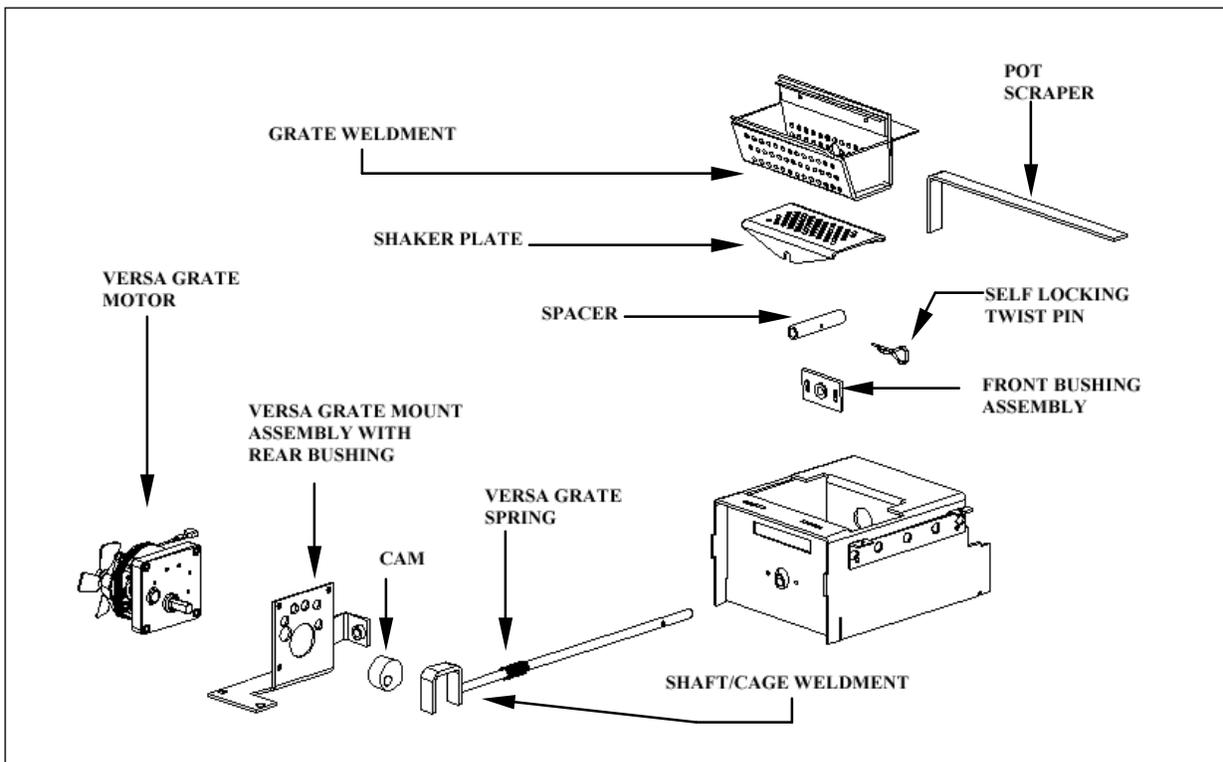
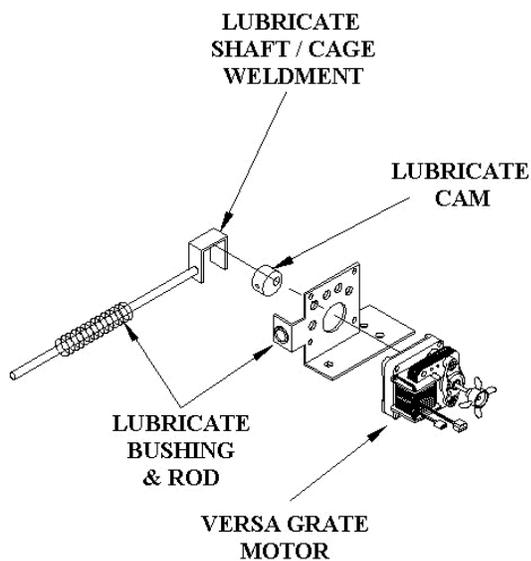

Figure 5
Figure 11
All models are equipped with the Versa Grate System (see Figure 5 below). The benefit of this feature is that the stove can operate for longer periods of time, with most fuels, without the grate requiring cleaning. If the flame becomes dark orange, is accompanied by black smoke or burns with a lazy motion - it's time to clean the grate.
The Versa Grate System – First, let's become familiar with the burn system in a St. Croix Pellet stove. The system in the York Insert is a little different than in the Freestanding models (See Fig 5 below). There is a 2-piece burnpot. The top Part is called the **"Grate Weldment"**. This sits on top of the **"Shaker Plate"**. This in turn sits on top of the **"Shaft/Cage Weldment"** and is held in place with the **"Spacer"** & **"Self Locking Twist pin"**. The Shaft/Cage weldment is moved towards the front of the stove and then towards the back of the stove by the **"Cam"** that is connected to the **"Versa Grate Motor"**. This motion is constant while the stove is in operation. The only parts that may need to be removed for cleaning purposes during the Daily or Periodic Maintenance are the **"Grate weldment"** and the **"Shaker Plate"**. The holes in the burnpot will get plugged with use and should be checked regularly.
1. Check Grate Weldment and Shaker Plate (See figure 5) to determine if holes are plugged. Clean as needed. With proper precautions the grate may be partially cleaned while the stove is hot. Follow these steps:
- d. Use the “scraper” provided to move the burning pellets to one side of the grate, leaving the ash in the bottom of the grate. (See Fig 5 & 6)
3. Clean holes in the Grate Weldment and Shaker Plate at least weekly. Remove the burn grate and use a small metal object to clean out plugged holes (See figure 5).
7. With the Room Fan removed you have easy access to the **Versa Grate system**. This should also be lubricated on a yearly basis with some High Temp Anti-Seize (can be purchased at a local car parts store). There are several areas to lubricate (see figure 11 below). They are: the Cam, Rear Bushing & Rod of the Shaft/Cage Weldment and the Front Bushing (for location of the front bushing see figure 5 on page 9, it is located in the front of the stove, below the Grate Weldment and Shaker Plate in the Firebox).